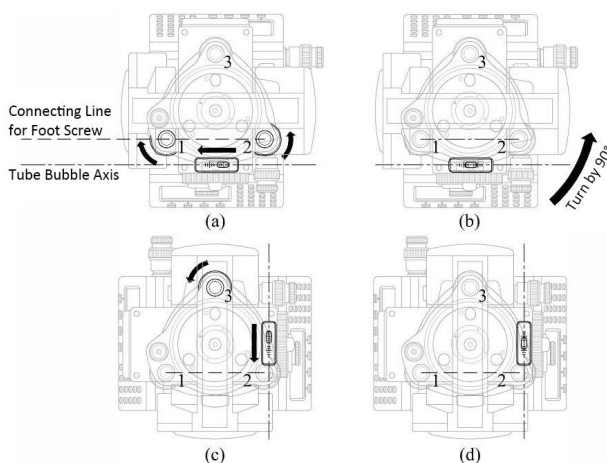

Figure 2-6 Center tube bubble in two mutually perpendicular directions
④ Refined leveling: Rotate the sighting parts so that the axis of tube bubble is parallel to the line connecting two feet screws. Figure 2-6(a) shows that the axis of tube bubble is parallel
to the line connecting foot screw No. 1 and 2. Rotate foot screw No. 1 and 2 to center the tube bubble. Turn the sighting parts by 90° to make the axis of tube bubble perpendicular to the line connecting foot screw No.1 and No.2 [Figure 2-6(c)] and rotate the foot screw No.3 to center the tube bubble, as shown in Figure 2-6(d). When refined instrument is conducted, it will not destroy the previous completed alignment.